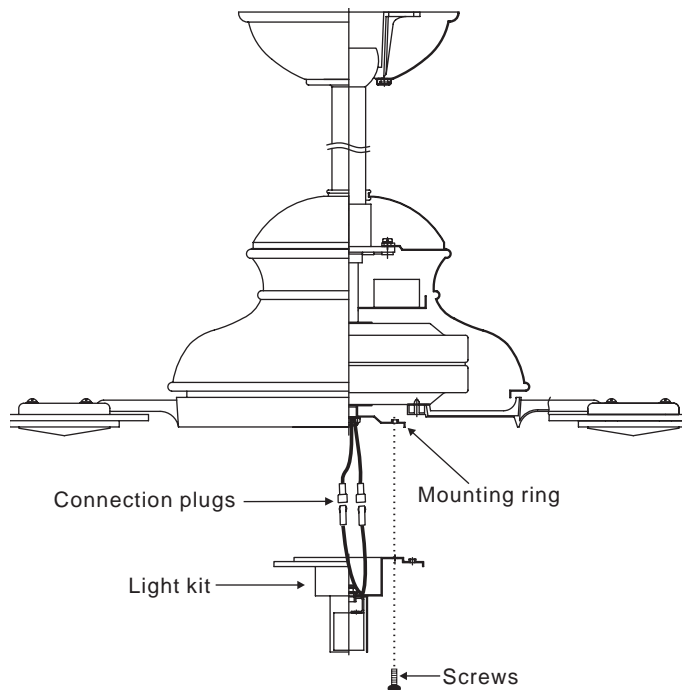

Figure 16
2. Place the key holes on the light kit over the 2 screws previously loosened from the mounting ring, turn light kit until it locks in place at the narrow section of the key holes. Secure by tightening the 2 screws previously loosened and the one previously removed. (Figure 16)